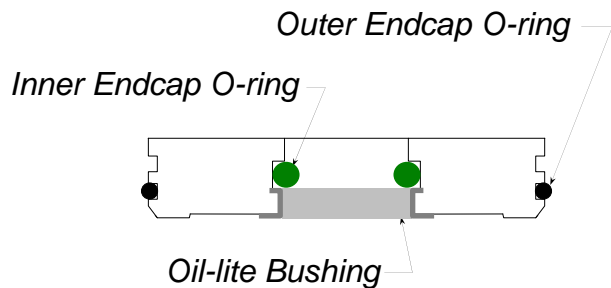

Figure 7
9. Install one inner endcap O-ring as shown in Figure 7.